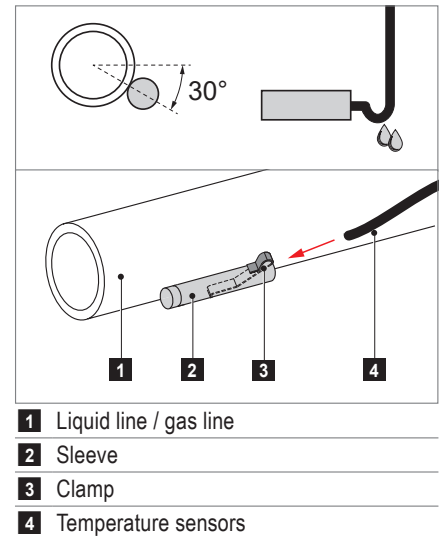

Fig. 48: Installation of the temperature sensors
- on the lower side of the pipe, as shown in Fig. 48